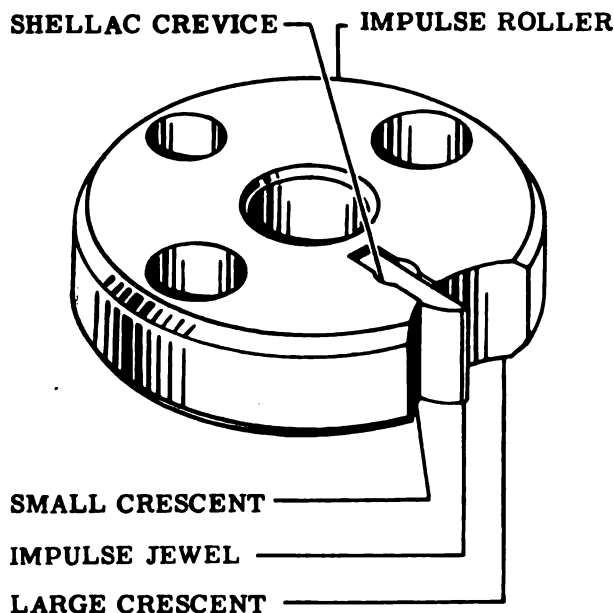

Figure 61
3. Insert a jewel in the slot, curved side of the jewel toward the operator and flush on the bottom. See Fig. 61. Select the proper size jewel for light push fit with no side shake, by trying several jewels in the slot. Leave the selected jewel in the slot of the roller.
8. Apply shellac in the shellac crevice on each side of the jewel (see Fig. 61 which shows these crevices before the jewel was tipped up); when the shellac bubbles, remove the roller from the heater and push shellac in at the top and back of the jewel. Be sure there is sufficient shellac on the top and back.
13. Cool in air. Remove all excess shellac with nickel wire pointer (Tool No. 92), being especially careful to remove shellac from large and small crescents. See Fig. 61. Clean in naphtha with stiff brush; dry in warm air.